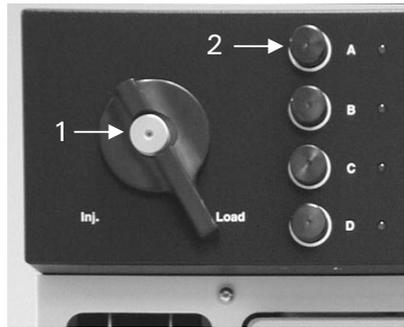

FIGURE 3-24. Manual Injection Valve
- e) Unscrew the injection port on the front and pull out the handle (item 1, FIGURE 3-24).